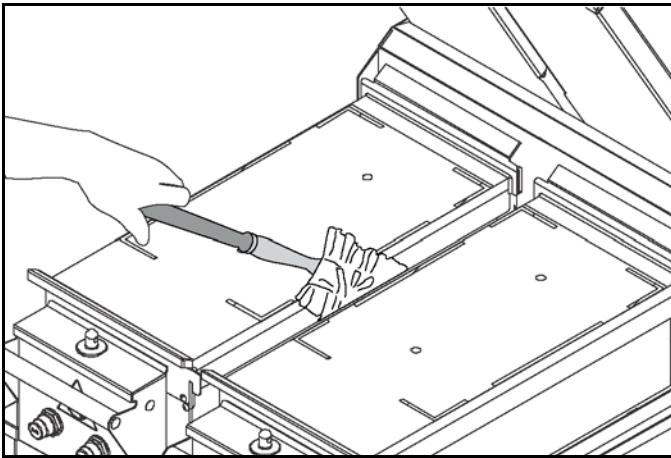

Figure-127
35. Remove the multi-use tool pad from the flat paddle tool and snap on the sanitizer-soaked universal pad. Clean in between and behind the platens and surrounding areas, such as the hood and bullnose. See Figure-127.